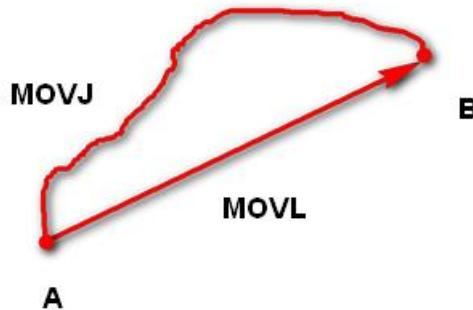

Figure 12.1 MOVL/MOVJ mode
- MOVJ: Joint movement. From point A to point B, each joint will run from initial angle to its target angle, regardless of the trajectory, as shown in Figure 12.1.
- MOVL: Rectilinear movement. The joints will perform a straight line trajectory from point A to point B, as shown in Figure 12.1.